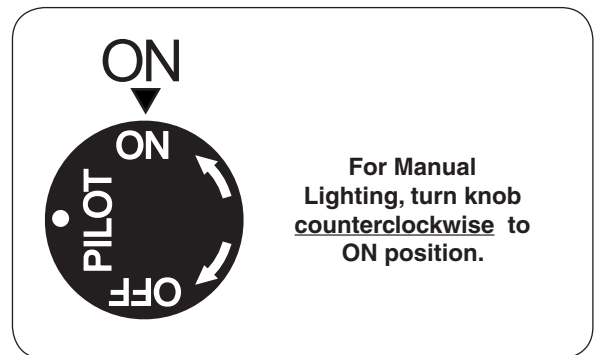

Fig. 23-1 Control knob detail (ON)
1. Ensure the pilot is burning. Turn the gas control knob counterclockwise to **ON** (Fig. 23-1) to ignite the burner. The valve will open and the burner will light.